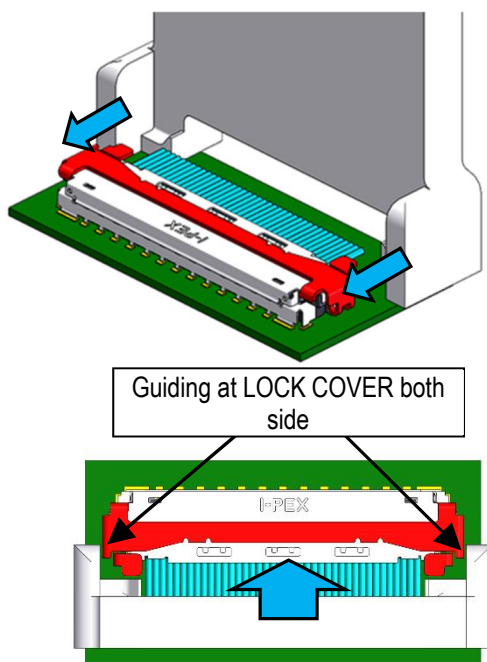

Fig.15-1
- ① Guide the Unlock jig to both side of the LOCK COVER as shown in Fig. 15-1, and set the JIG actuator at the bottom of the LOCK lever.
- ② If Unlock jig set is OK, pull up on Unlock jig to release the Lock
If a Bad condition is encountered, start the process over from the condition shown in Fig. 15-1.